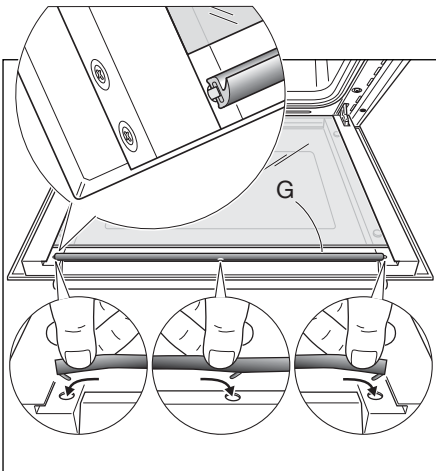

Fig.24e
- Replace the seal "G" by hooking in the three fixing hooks. Make sure that you put it in the correct way. (Fig. 24e).